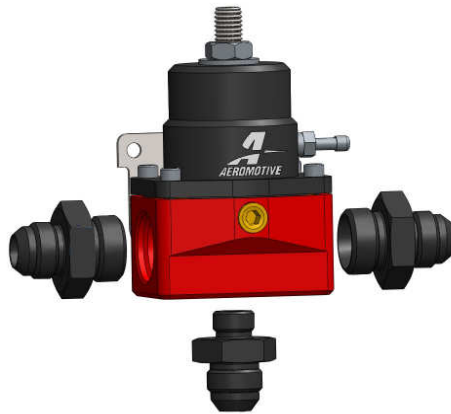

FIGURE 3-1
- 3-3. Install one of the supplied AN-10 o-rings onto the ORB (cut-off) side of two AN-10 cutoff to AN-08 reducer union fittings, if not already installed, and install in each of the AN-10 ports located on the sides of the supplied fuel pressure regulator. Install one of the supplied AN-06 o-rings on the cutoff side of the ORB-06 to AN-08 male flare fitting, if not already installed, and install in the AN-06 port located on the bottom of the supplied fuel pressure regulator. See **FIGURE 3-1**.